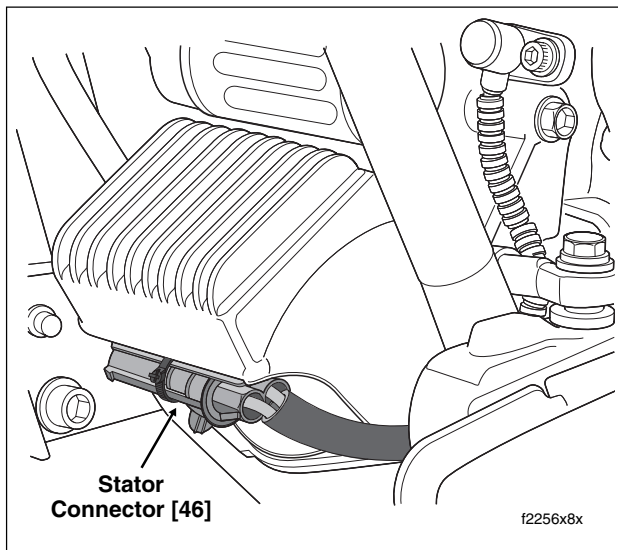

Figure 8-12. Voltage Regulator (Left Side View)
6. Locate stator connector [46], 2-place Packard, fixed to bracket at bottom of voltage regulator. Cut small cable strap and slide connector toward left side of motorcycle to release groove from tongue on bracket. Raise the external latch and separate pin and socket halves. See Figure 8-12.
9. Feed connector and cable conduit under front engine stabilizer link and then forward along outboard side of voltage regulator leg. See Figure 8-12.
13. Mate pin and socket halves of stator connector [46], 2-place Packard. At bottom of voltage regulator, slide connector toward right side of motorcycle until groove fully engages tongue on bracket. Install **new** cable strap capturing bracket, connector and cable loop at rear of connector. See Figure 8-12.